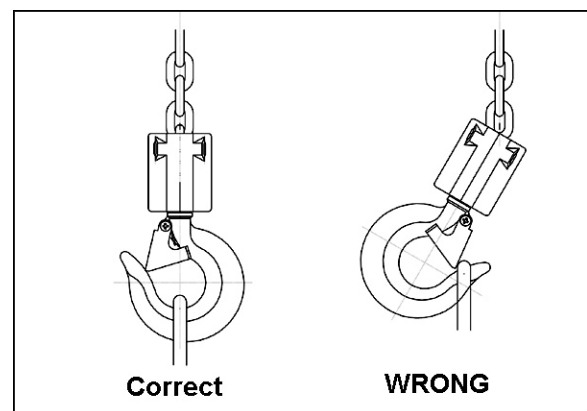

Figure 11
2. Place load sling or chain in the center of the bottom hook, making sure the safety latch is secure. **Never load the hook in front of the safety latch.** See Figure 11.